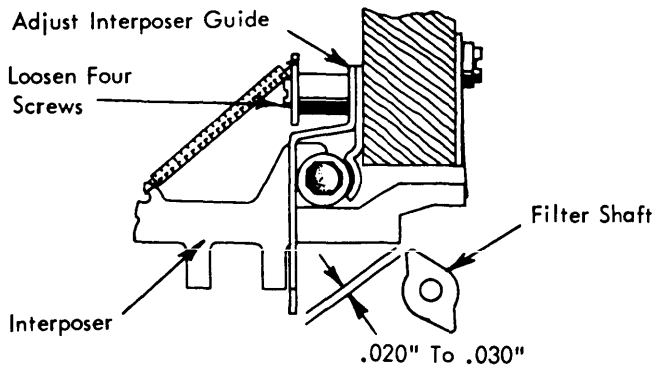

FIGURE 3. Rear Interposer Guide Comb
2. Rear Interposer Guide Comb - Adjust the interposer guide comb up or down so there is $.020''$ to $.030''$ clearance between the bottom edge of the interposers and a vane of the filter shaft (Fig. 3).